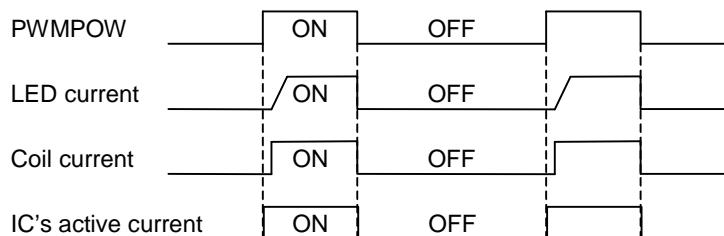

Figure 43.
2) Power control PWM control is controlled by providing PWM signal to PWMPower, as it is shown Figure 43. The current setting set up with PWMDRV logic is chosen as the H section and the current is off as the L section. Therefore, the average LED current is increasing in proportion to duty cycle of PWMPower signal. This method is, because IC can be power-off at off-time, the consumption current can be suppress, and the high efficiency can be available, so it makes it possible to brightness control until 50 $\mu$ s (MIN1% at 200Hz). And, don't use for the brightness control, because effect of power ON/OFF time changeover is big under 50 $\mu$ s ON time and under 50 $\mu$ s OFF time. There is no effect of ON/OFF changeover at 0% and 100%, so there is no problem on use.